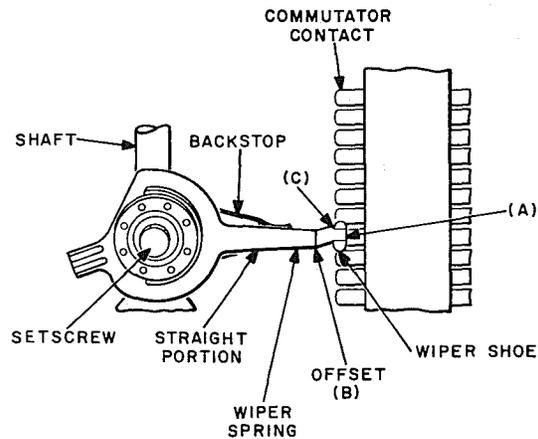

Fig. 5—Commutator Wiper and Associated Parts Bumping
**2.14 Centering of Wiper on Commutator Contacts:** Fig. 5(A)—With the shaft in position to cut in on any level, the centerline of the wiper spring shall line up with the centerline of the commutator contact corresponding to that level within the limits of
**2.15 Wiper Spring Tension:** Fig. 5(B)—The tension of the wiper spring against the bottom commutator contact measured at the offset in the wiper spring between the straight portion and the tip shall be